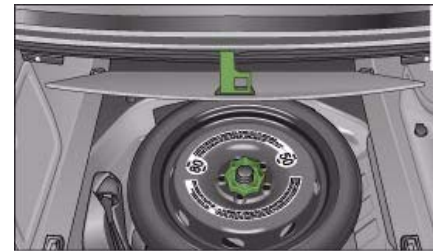

Fig. 268 Spare wheel
- Lift the floor panel by the plastic handle ⇒ fig. 268.
- Turn the centre plastic knob ⇒ fig. 268 anti-clockwise.